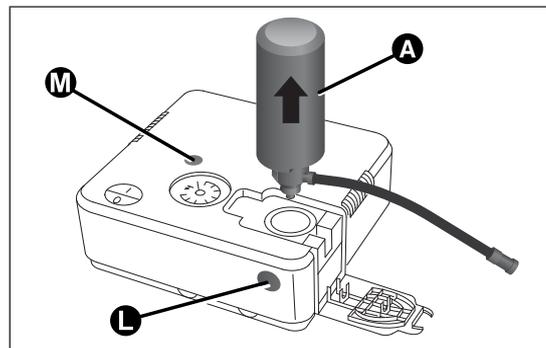

fig. 108
- If the spray bottle A fig. 108 is connected to the compressor, you need to press the release button L to remove it;